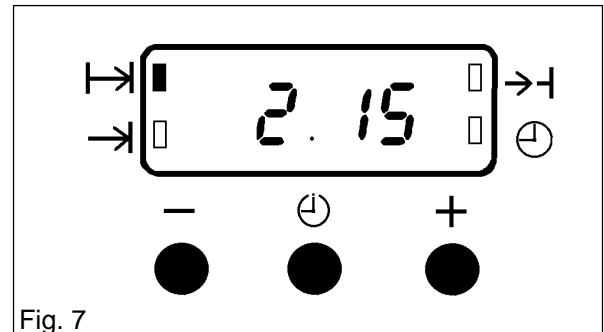

Fig. 7
- iii) To set the length of cooking time, press the Selector Control button (\odot) until the 'Cook Time' indicator is illuminated ($\dashv \rightarrow$). Press the increase control (+) until the required length of cooking time is displayed, e.g. 2 hrs 15 mins as Fig. 7. If necessary depress the decrease control (-) until the correct time interval is achieved.